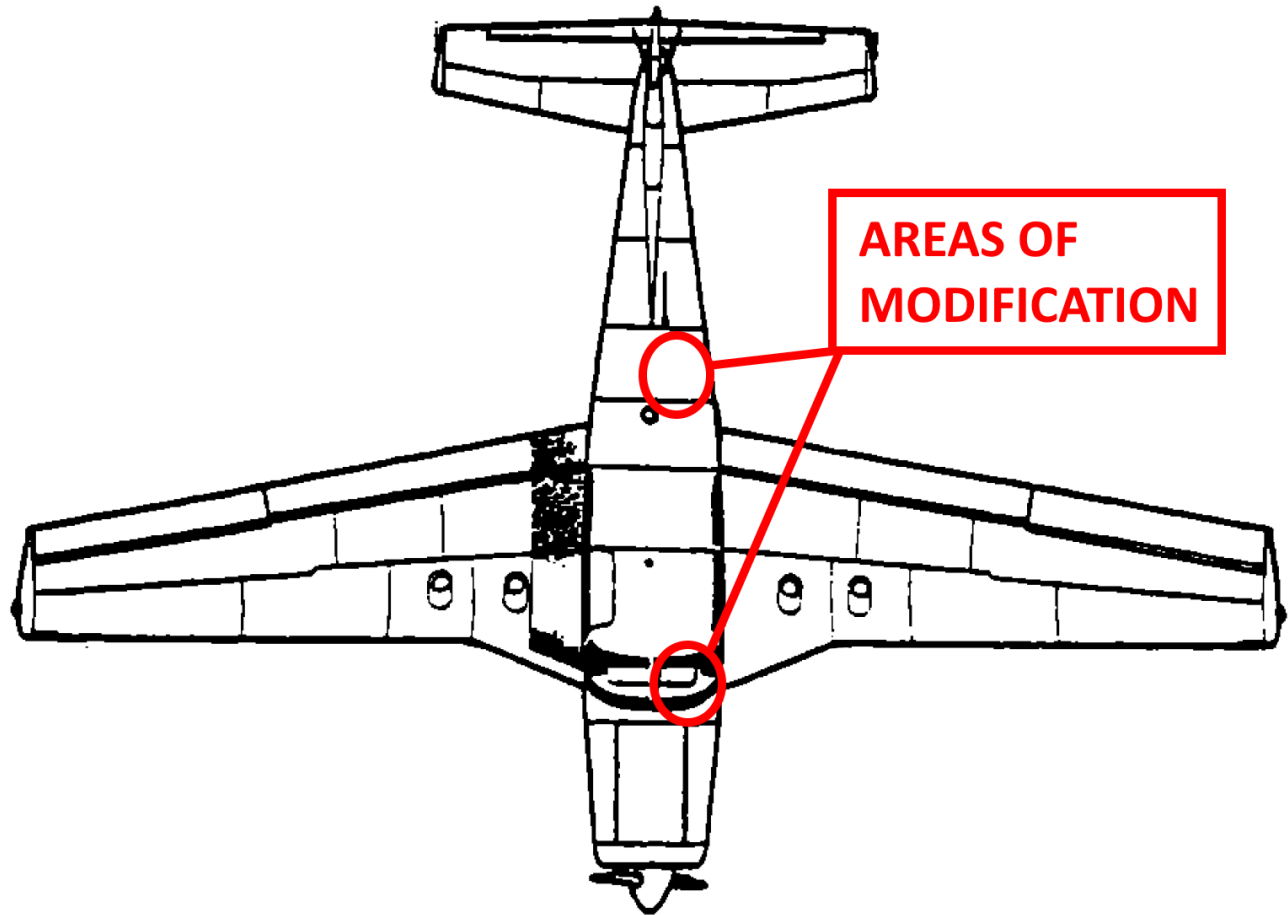

FIGURE 3-1 AREAS OF MODIFICATION
- 3.3** Remove seats and interior, as needed, for wiring installation and access to areas of modification. Refer to Figure 3-1 through 3-4.